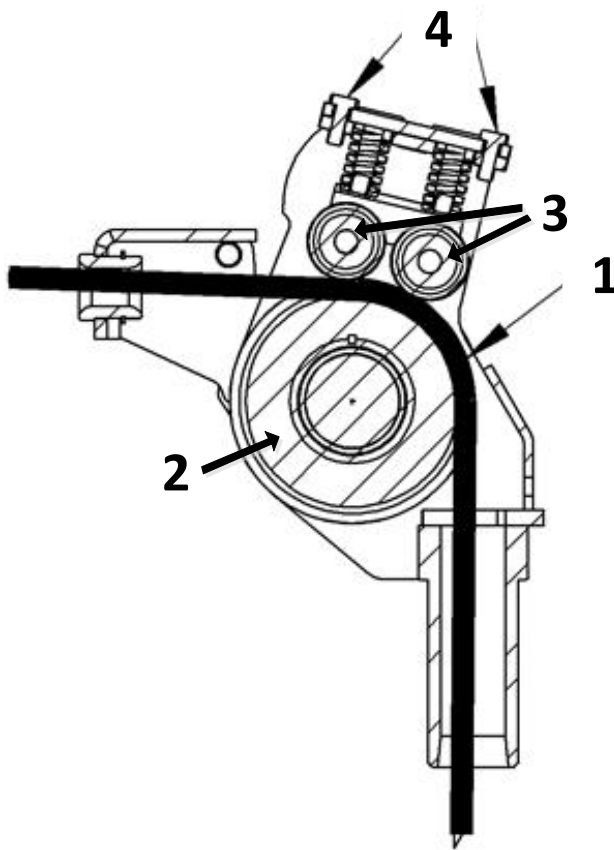

Figure 12a
When you start unreeling the wire rope with the machine, the force of the safety brake should be set in such a way that the wire rope does not begin unrolling on the drum (check instruction for use of winch; setting the safety brake). Next the thrust of the smaller pulley (pos. 3, figure 12a) on the larger pulley must be set. If the rope is slipping on the larger pulley (2), you must increase the thrust of the smaller pulley using the setting screws (4). In case the larger pulley (2) is not spinning, you must decrease the thrust of the smaller pulley (3) using the setting screws (4).